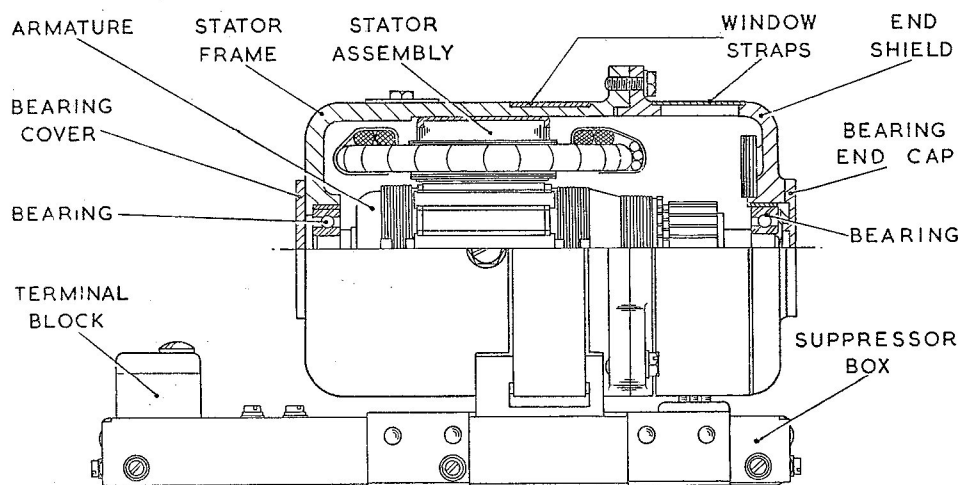

Fig. 2. Sectional view of inverter
2. The rotary inverter, Type 300, (a sectional view of which is shown in fig. 2), is a two-pole, compound wound machine. The series and shunt field d.c. windings (X-XX), and the a.c. field output winding (A1-A2), are carried on a common stator assembly.